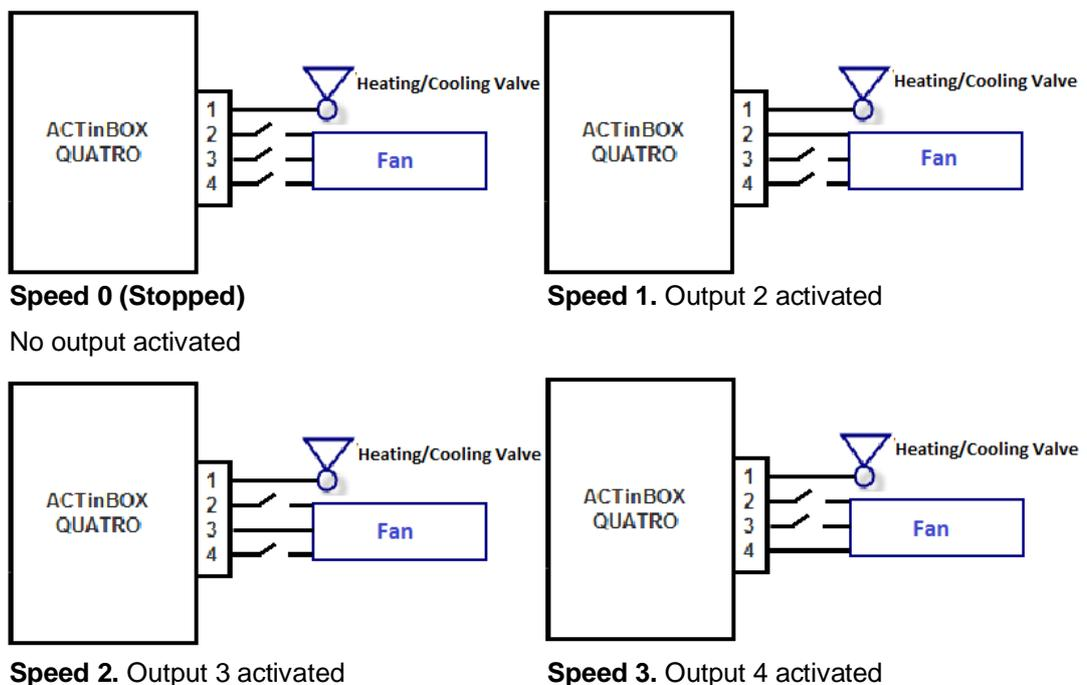

Figure 3.6. Ventilation speed control by switching
- **Switching** (just 1 relay on): just one of the 3 outputs of the actuator will be activated for each ventilation level. See figure 3.6.